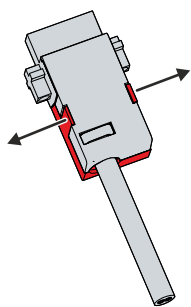

Fig. 22: CP29xx_Disassembly of strain relief housing
1. Use your fingers to bend the latching lugs on the lower part slightly outward (see Fig. 22).